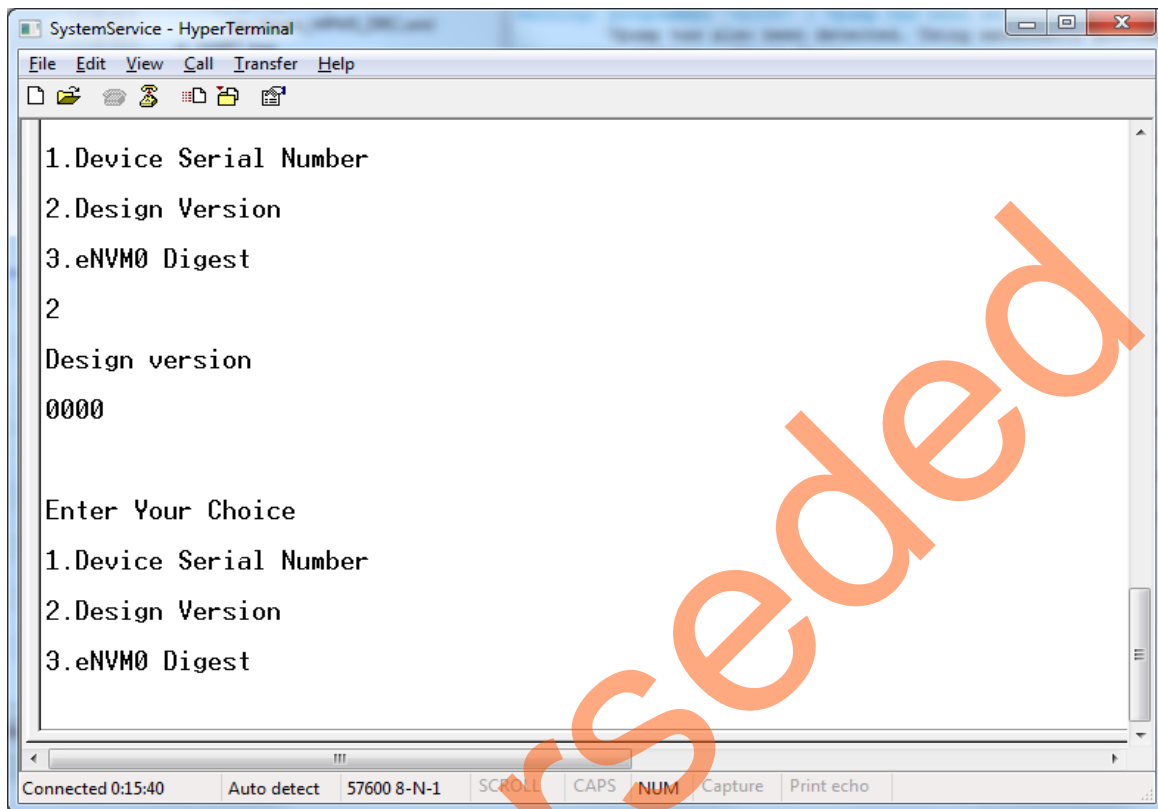

Figure 12 • Design Version
6. Select option 2 to get design version. 0000 is the default value of design version. Figure 12 shows the HyperTerminal displaying the Design Version.